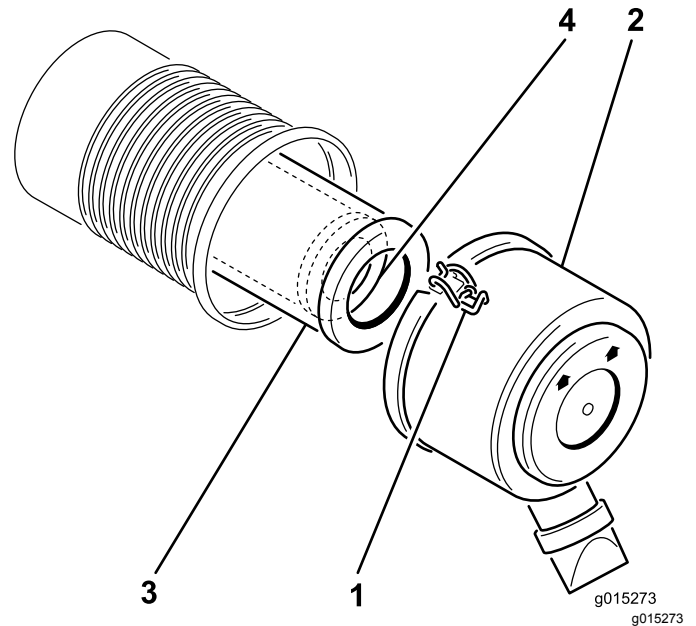

Figure 14
2. Release latches securing air-cleaner cover to air-cleaner body. Separate the cover from the body (Figure 14).
4. Gently slide the primary filter out of the air-cleaner housing (Figure 14).
2. If the safety filter is being replaced, carefully slide it into the filter body (Figure 14).
3. Carefully slide the primary filter over the safety filter (Figure 14).
5. Install the air-cleaner cover with the side indicated as up facing upward and secure the latches (Figure 14).